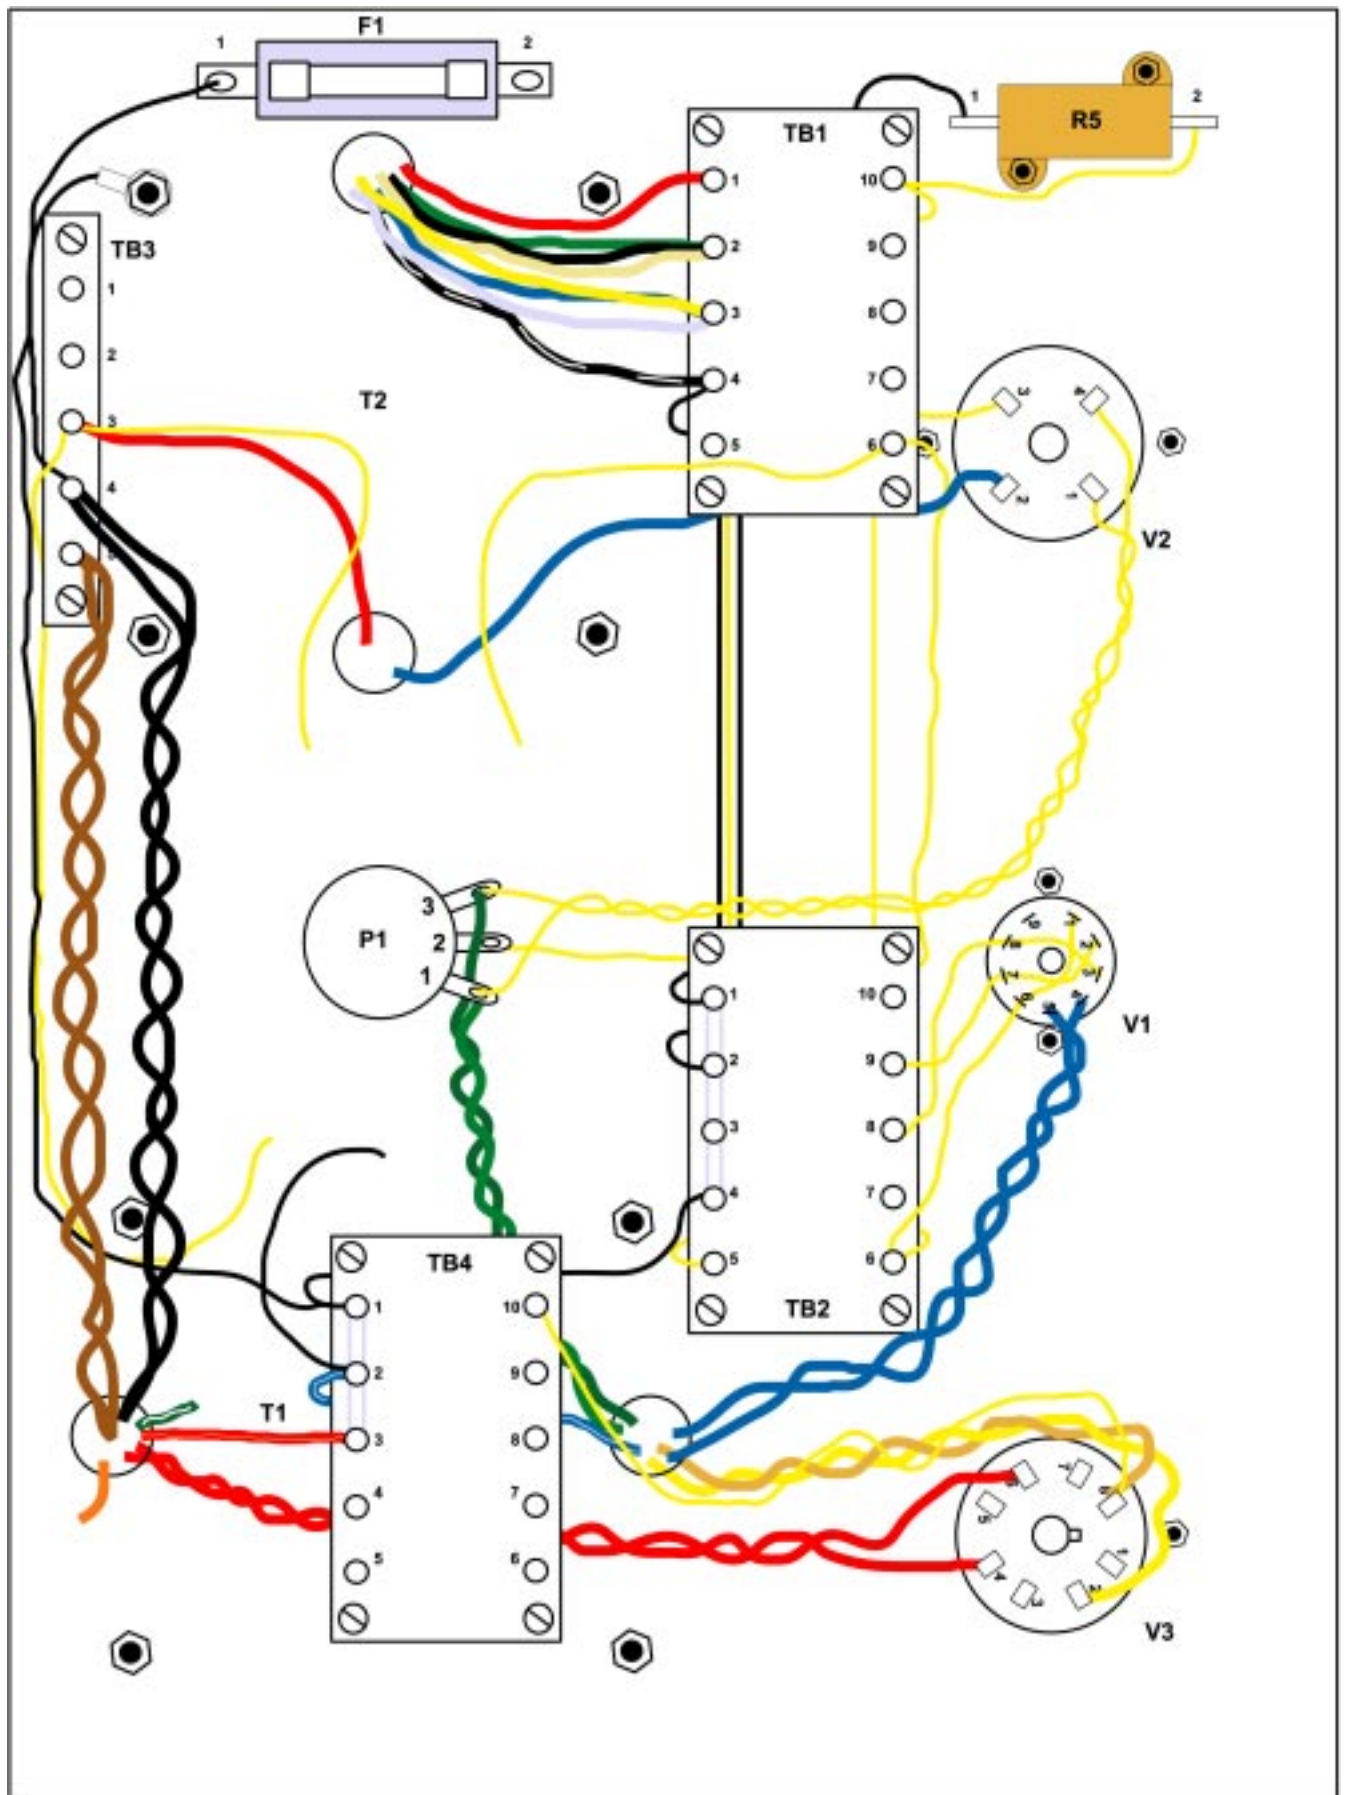

Figure 4
6) Cut a piece of the black hookup wire to length and solder one end to TB4-1 and the other end to TB2-4. Route the wire under TB4 as shown in figure 4.
Cut a piece of the yellow hookup wire to length and solder one end to TB4-10 and the other end to V3-8 As shown in figure 4.
Locate the bag marked "H/W1" and remove one ring terminal, a star washer and a brass nut. Cut a piece of the black wire to a length of approximately 10 inches. Solder one end of this wire to TB4-1 as shown in figure 4. Trim the wire to length and solder the ring terminal to the other end of this wire. You will now attach this ring to the transformer bolt as shown in figure 4. First remove the nut that secures the transformer mounting bolt. Install the star washer onto the bolt and then re-install the nut and tighten securely so that the star washer digs into the bottom of the aluminum plate. Now place the ring terminal onto the bolt and secure with the brass nut. Just finger tighten this nut for the time being. The ring terminal should now be sandwiched between the two brass nuts.
Cut a piece of the black hookup wire to length and solder one end to TB3-4 and the other end to F1-1 as shown in figure 4.
Cut a piece of the black hookup wire to length and solder one end to TB1-4 and the other end to TB2-2. Route the wire under terminal board TB1 as shown in figure 4.
Cut a piece of the black hookup wire to length and solder one end to R5-1 and the other end to TB2-1. Route the wire under terminal board TB1 as shown in figure 4.
Cut a piece of the yellow hookup wire to length and solder one end to P1-2 and the other end to TB1-6. Route the wire as shown in figure 4.
Cut two pieces of yellow hookup wire to length, solder one wire to P1-1 and the other wire to P1-3. Twist them together, route as shown in figure 4 and solder the other ends of these wires to V2-1 and to V2-4.
Cut a piece of the yellow hookup wire to length and solder one end to TB1-10 and the other end to TB2-5. Route the wire under terminal boards TB1 and TB2 as shown in figure 4.
Cut a piece of the yellow hookup wire to length and solder one end to R5-2 and the other end to TB1-10. Route the wire as shown in figure 4.
Cut a piece of the yellow hookup wire to length and solder one end to V2-3 and the other end to TB2-6. Route the wire under terminal boards TB1 and TB2 as shown in figure 4.
Cut a piece of the yellow hookup wire to length and solder one end to V1-8 and the other end to TB2-8. Route the wire as shown in figure 4.
Cut a piece of the yellow hookup wire to length and solder one end to V1-7 and the other end to TB2-9. Route the wire as shown in figure 4.
Cut a piece of the yellow hookup wire to length and solder one end to V1-6 and the other end to TB2-6. Route the wire as shown in figure 4.
Cut a piece of the yellow hookup wire to length of approximately 9 inches and solder one end to TB3-3. Route the wire as shown in figure 4 leaving the other end unterminated at this time.